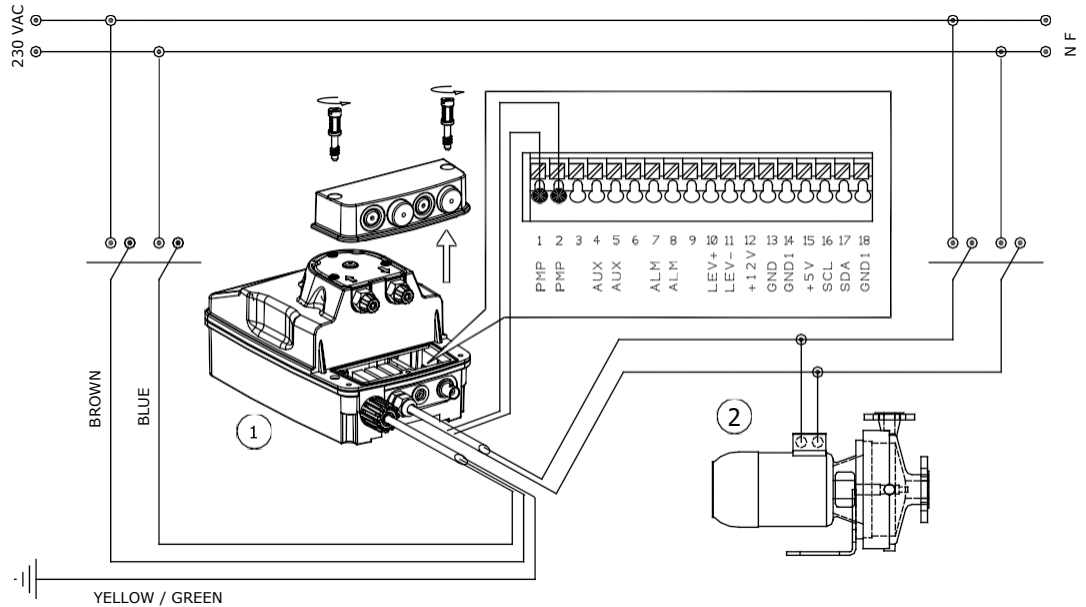
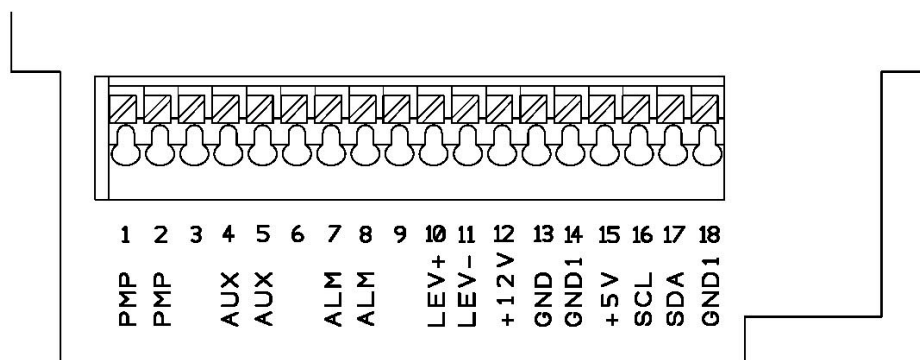

Fig. 2 – Installation and terminals
Fig. 5 – Service Connector
Carefully observe the regulations in force in the various countries as regards electrical installations (Fig.2). **When the supply cable is devoid of a plug, the equipment should be connected to the supply mains by means of a single-pole circuit breaker having a minimum distance of 3 mm between the contacts. Before accessing any of the electrical parts, make sure that all the supply circuits are open.**
In figure 5 is shown the scheme of the service connector for the connection of the various services. To the service connector is accessed by removing the protective cover as shown in fig. 2.
- **Connectors 1-2 (PMP)**= Connection for the recirculation pump. Input at 230V. (Fig.2).